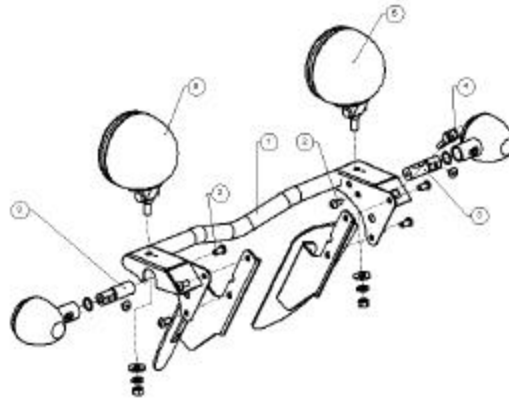

FIGURE 1: LIGHTBAR ASSEMBLY
7. Place the left turn signal wires through the inner hole in the left side of the light bar and install with the supplied M8 x 16 mm buttonhead allen bolt, see Figure 1. Position the turn signal lens forward and tighten the bolt. Note: phillips screw should face rearward. Repeat process with right turn signal.
8. Refer to Figure 1 for installation of components. Temporarily remove the four M8 button head socket bolts securing the windshield lower brackets.